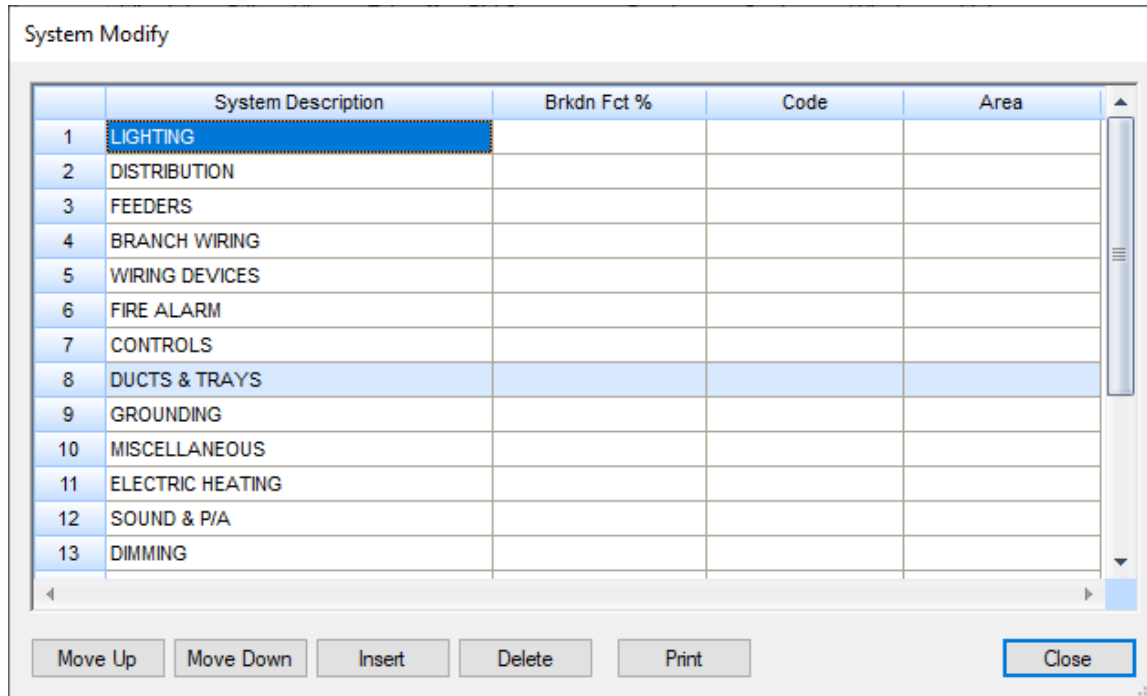

Figure 18
22. The System Descriptions shown in Figure 18 are from the Default job.